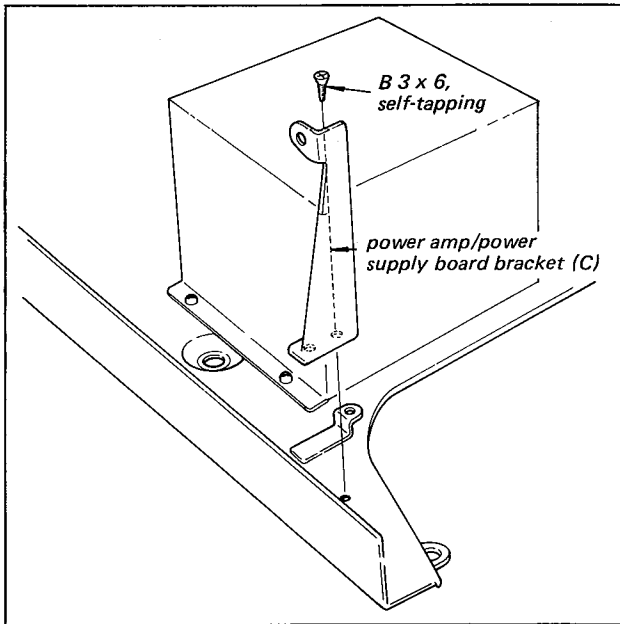

Fig. 2-6. VOLUME control replacement
1. Remove the power amp/power supply board bracket (c) by taking out the screw as shown in Fig. 2-6.